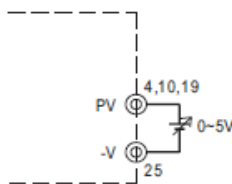

Fig. 3.1 Add on 0-5V external voltage
(1) Connecting an external DC source between PV(4, 10, 19) and -V(25) on CN500 that is shown in Fig. 3.1.